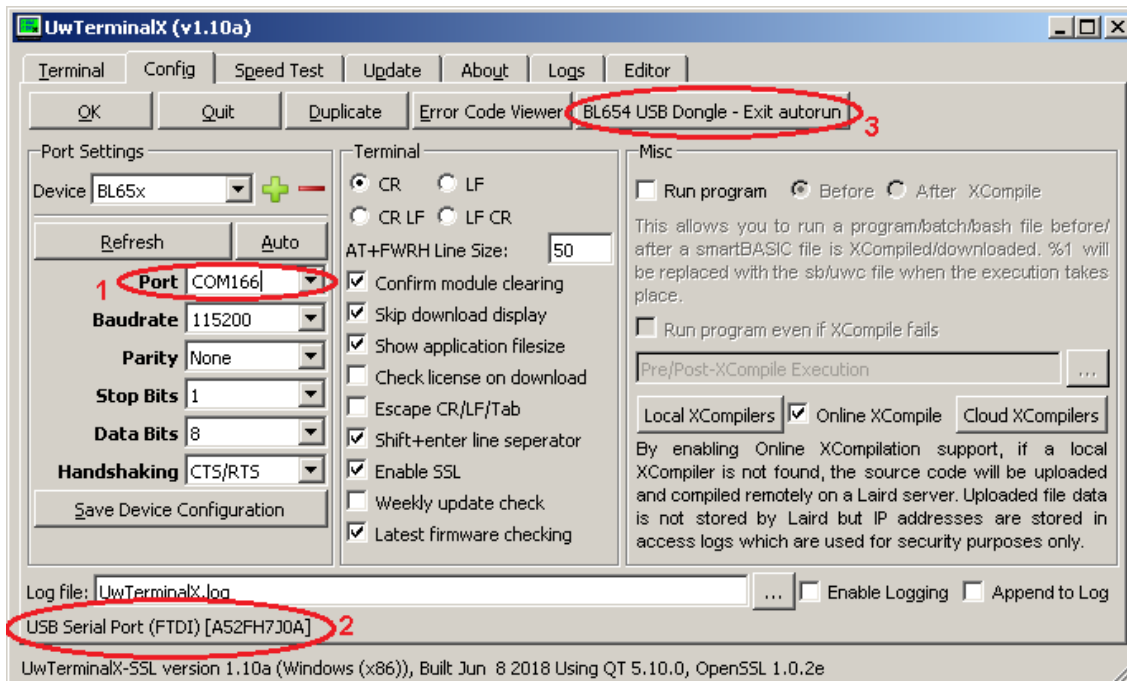

Figure 3: Getting ready to exit autorun mode
- Open UwTerminalX and select the serial port of the USB dongle (1) (Figure 3).
- Ensure that the description identifies it as an FTDI device (2), and then click **BL654 USB dongle – Exit Autorun** at the top of the window (3) (Figure 3).